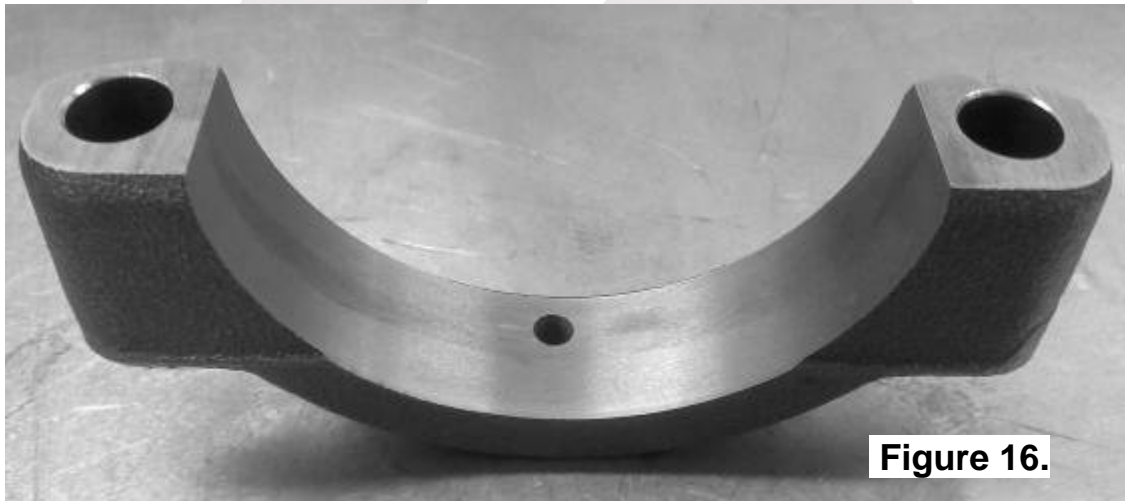

Figure 16.
- Using a pedestal drill, drill a 6.35mm [$\frac{1}{4}$ "] hole through the bearing cap, in the position you have marked. (Fig.16.)